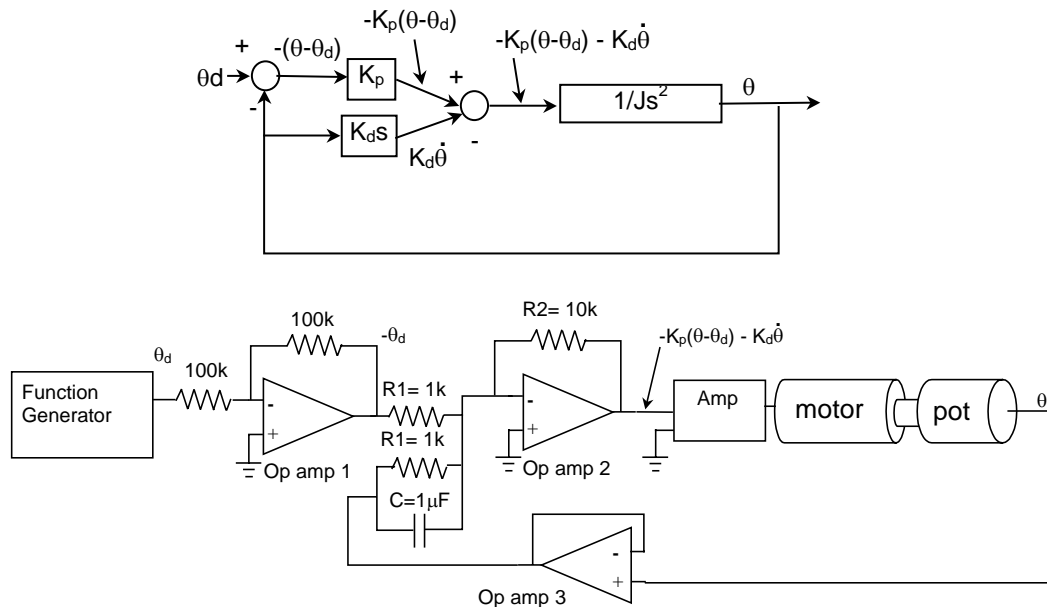

Figure 1 – PD Motor Position Control System (Block Diagram and Circuit)
Figure 1 shows the block diagram and op-amp circuit that you will implement to make the PD control law for the motor. J is the inertia of the motor shaft.
- Q3** Derive the closed-loop transfer function, $G(s)$, for the controlled system (the input is θ_d , the output is θ). Use either block diagram algebra (applied to the block diagram from Figure 1) or take the Laplace Transform of the differential equation that you derived in Q1.
To implement the PD control law, you need to build the circuit shown in Figure 1.
- Q6** Compare this equation with the control law of equation (1). What are K_p and K_d in terms of the electronic components (resistor and capacitor values)? How would you increase the damping of the system?
- Q7** Briefly describe the specific purpose for each of the op-amps in Figure 1.
Construct the circuit in Figure 1. *Important: wire your circuit neatly! A neat circuit requires little extra time to wire, and it's easier to debug. Circuits often take much more time to debug than they do to initially wire!* Make sure to hook up the potentiometer correctly! The wiper of the pot should **not** be connected to the power supply!